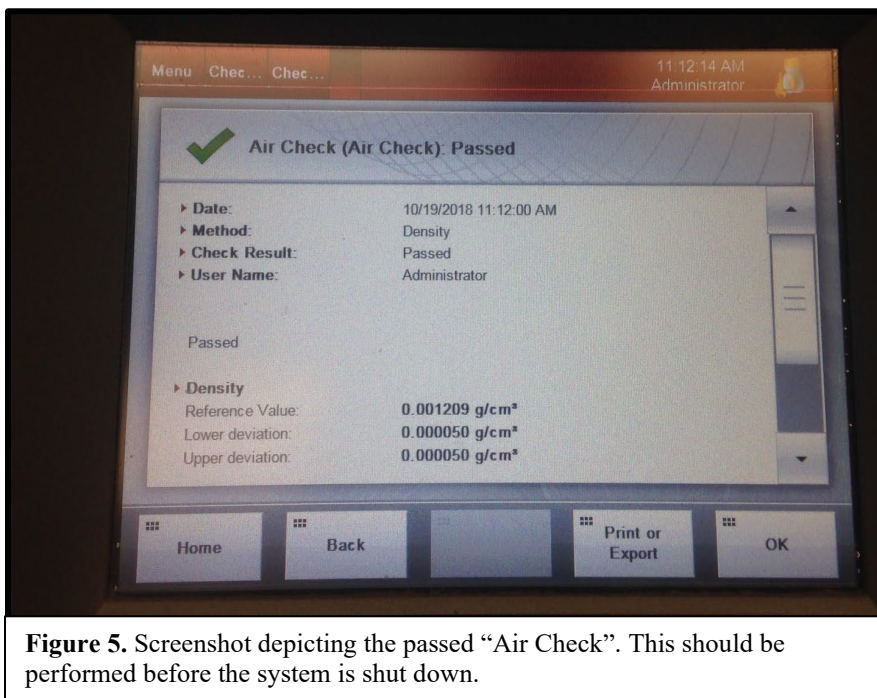

Figure 5. Screenshot depicting the passed “Air Check”. This should be performed before the system is shut down.
16. After the data has been exported the densitometer must be shut down. But first an air check of the cell must be passed in order to properly shut down the machine. (Figure 5).